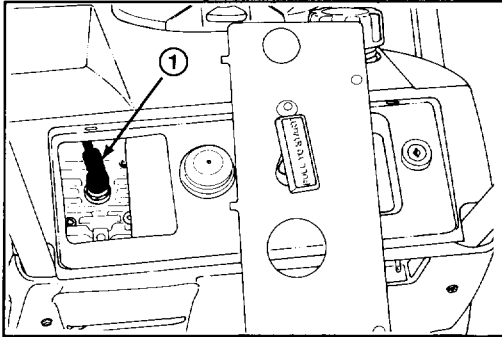

Figure 16
2. REMOVE SPARK PLUG (Fig. 16)—Pull wire off spark plug and remove plug. Examine the plug and replace if cracked, fouled, or dirty. **DO NOT SANDBLAST, SCRAPE, OR CLEAN SPARK PLUG BECAUSE DIRT MAY RELEASE AND FALL INTO CYLINDER CAUSING ENGINE DAMAGE.**